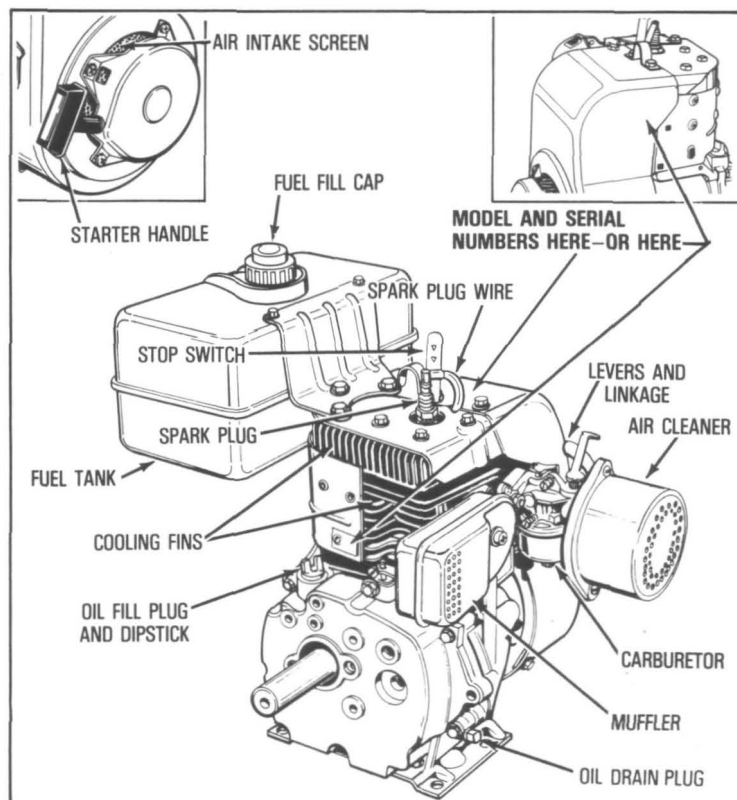

Fig. 1
- 2 **FILL OIL SUMP WITH OIL.** See preceding "Oil & Fuel Recommendations," Item 1 for correct oil and Figure 1 for oil fill locations.
- 5 **FILL FUEL TANK** with gasoline as specified in the preceding "Oil & Fuel Recommendations," item 2 (page 26).
- B. Be sure Spark Plug Wire is attached to Spark Plug (see Figure 1).
**POSITION EQUIPMENT SO ENGINE IS LEVEL.** Check level every five (5) operating hours or each time equipment is used. Always clean area around Oil Fill Plug (see Figure 1) before removing plug, to avoid contaminating oil with dirt, grass clippings, etc. Add oil as necessary. **Do not run engine unless proper oil level is maintained. Level must be between "Full" and "Add" mark on dipstick.** See instructions 2 and 3 in preceding "Pre-start Instructions" (page 26).
**2** **CHANGE OIL** — after first two (2) hours of operation and every twenty-five (25) hours thereafter, or more often if operated in extremely dusty or dirty areas.
**DRAIN OIL** — Position equipment so that Oil Drain Plug (see Figure 1) is lowest point on engine. Remove Oil Drain Plug and Oil Fill Plug (while engine is still warm) and allow oil to drain completely.
## ④ SPARK PLUG (see Figure 1)